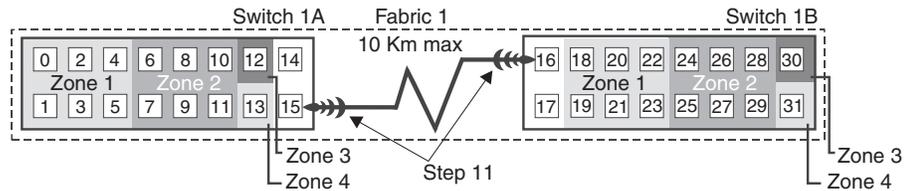

Figure 26. Connecting Fibre Channel switches over a remote network to complete the Fabric 1 environment
11. Complete the Fabric 1 environment by connecting Switch 1A with Switch 1B. Connect each end of a long range Fibre Channel cable (that can support a distance of up to 10 Km (6.25 mi)) to an unzoned port in each switch, as shown in Figure 26.